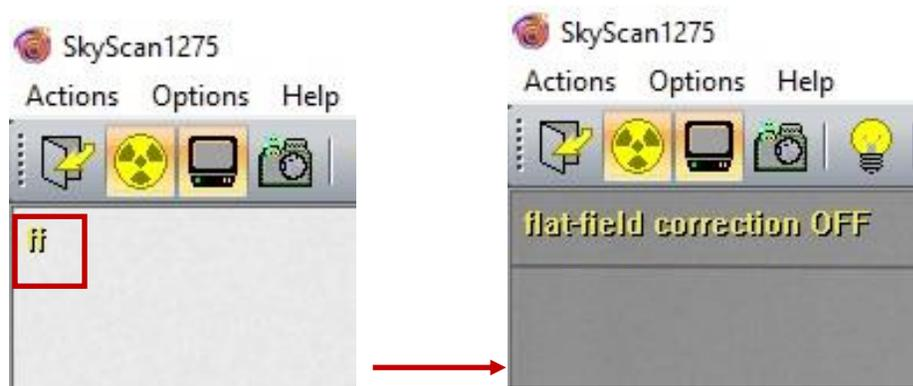

Figure 3. Turning off the flat-field correction in the upper left corner (in red).
2. Turn off the flat-field correction by double clicking the "ff" text in the upper left hand corner of the control software (Figure 3). Check that that the intensity is around 60% with the flat-field correction off. If it needs adjustment, go to step 3. If it is fine, then continue to step 4.